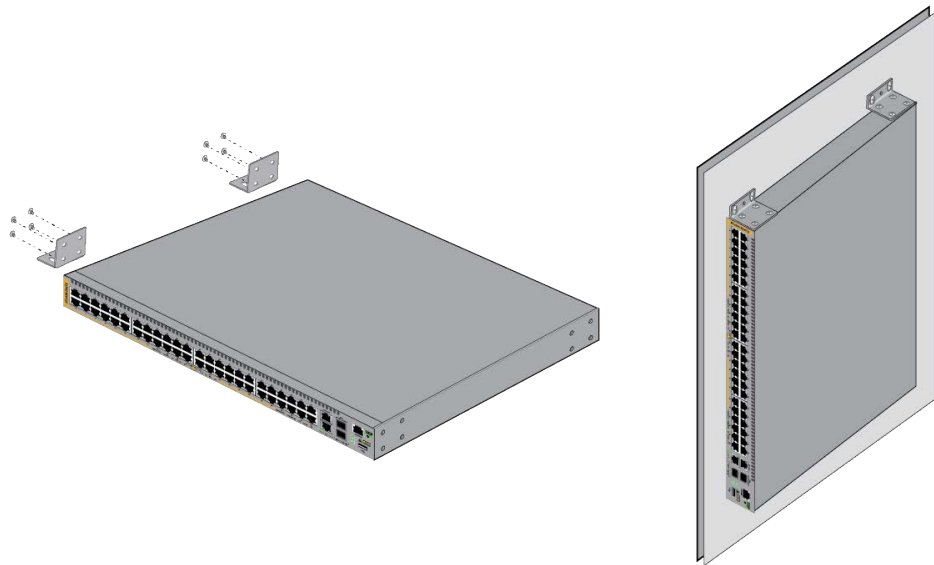
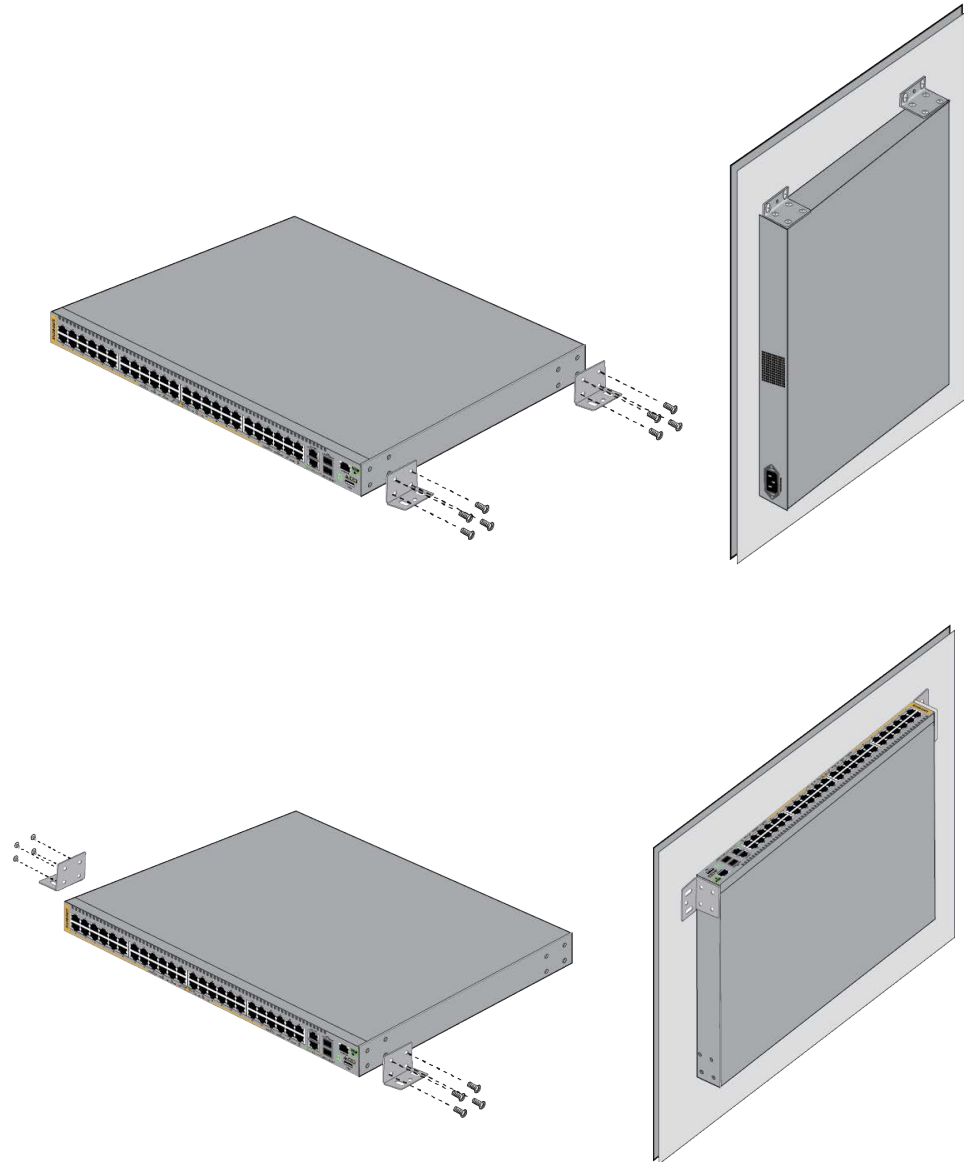

Figure 61. Attaching the Wall/Equipment Rack Brackets to the x330-52GTX Switch
Figure 62. Attaching the Wall/Equipment Rack Brackets to the x330-52GTX Switch (continued)
3. For the x330-52GTX Switch, attach the two wall/equipment rack brackets to one side of the switch. Refer to Figure 61 and Figure 62 on page 103 for the bracket positions.